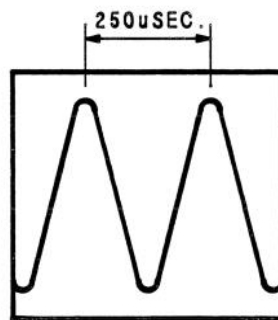

Figure 25. Typical IF Signal from A4/A5/A6 Sampler/Mixer
1. Verify that sampler/mixer assemblies A4, A5, and A6 are producing the second IF, which is a 4 kHz sine wave sent to the A10 digital IF assembly. Refer to Table 6 to locate this signal, and Figure 25 to identify its shape, frequency, and amplitude.
The waveforms should be approximately as shown in Figure 25. The IF should not vary and the signal amplitude displayed on the scope should vary with the source power. If there is a 4 kHz signal, then the sampler/mixers are working and the problem is with the A10 digital IF assembly. In this case, refer to A10 digital IF assembly troubleshooting in the assemblies section.